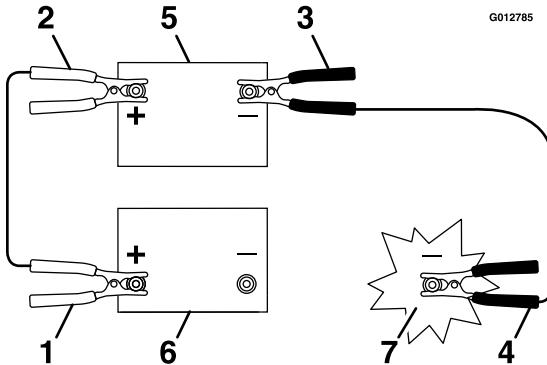

Figure 45
2. Connect the positive cable to the positive (+) terminal of the discharged battery (Figure 45). The positive post may be identified by a + sign on top of the battery cover.